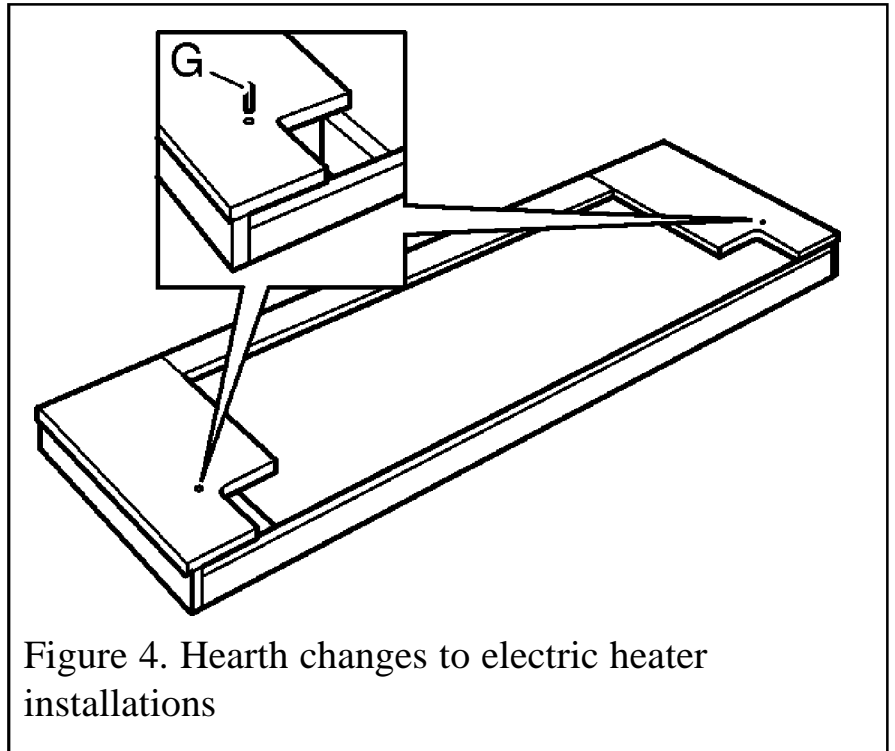

Figure 4. Hearth changes to electric heater installations
- Insert 2 wooden dowels (G) into the pre-drilled holes in the hearth (See figure 4).